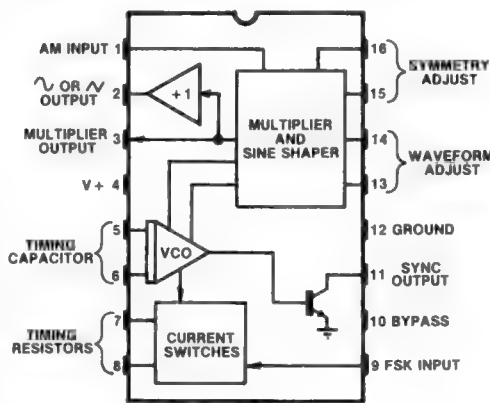

FIG. 1
As can be seen in Fig. 1, the IC is capable of many operations including amplitude modulation (AM), frequency shift keying (FSK), and frequency modulation, via the current switches. The VCO is the major function block of the circuit, which generates the triangle and square waveforms at a frequency controlled by the current switches. Resistors tied from pins 7 and 8 are used to program the current switches and determine the VCO frequency.